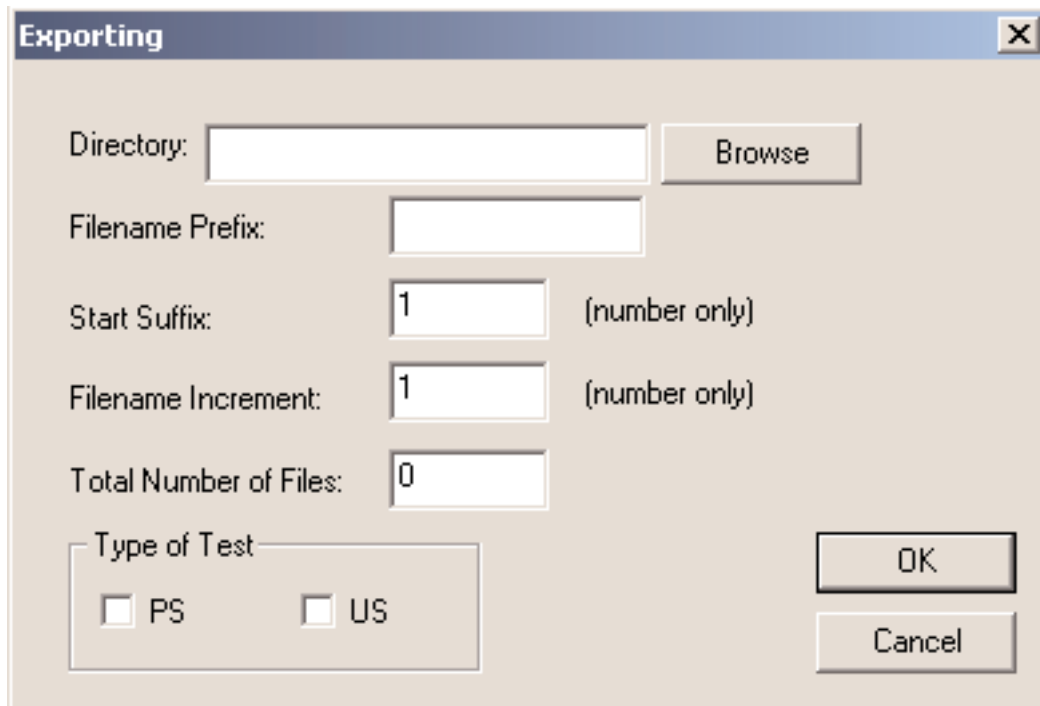
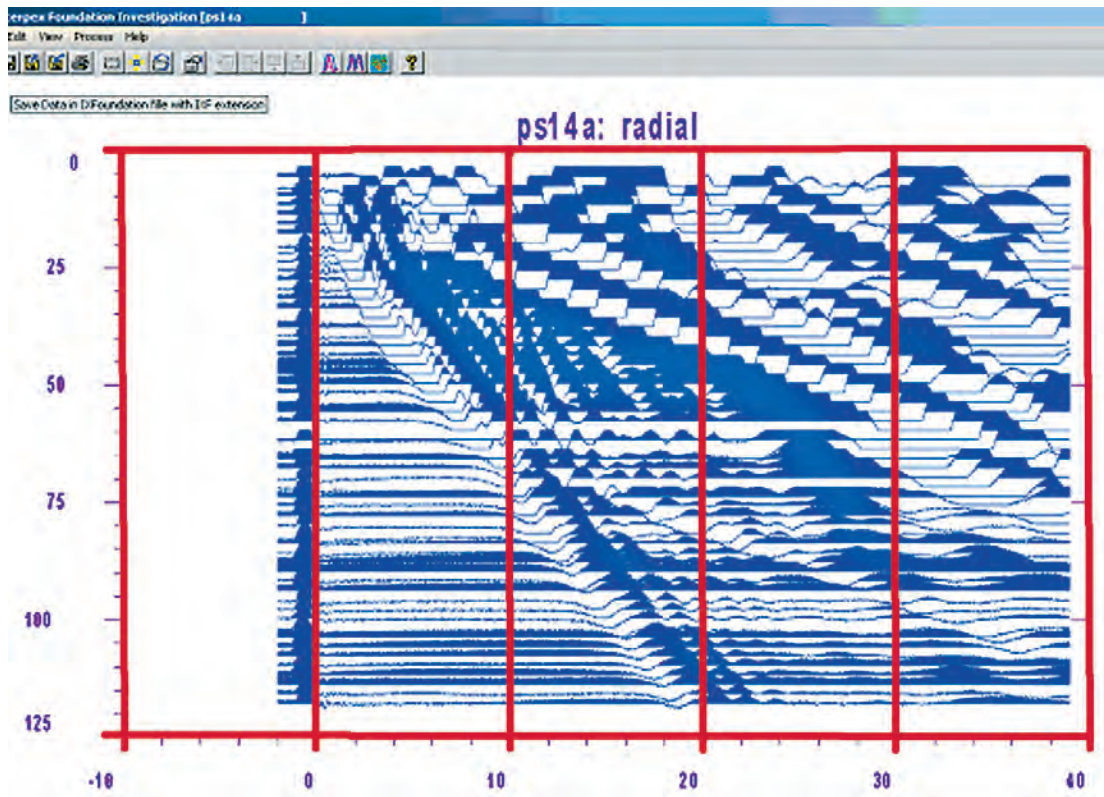

Figure 9: Exporting Information
Figure 14: Display of Imported Data
To export data to IXFoundation® from SHM, go to “File/Export Data to Brigix/Automatic”, see Figure 9. Then the dialog box as shown in Figure 14 should appear on your screen.
- 5. The data will then be displayed on the screen. It may look different than Figure 14, if a stacking parameter other than brute stack was chosen.